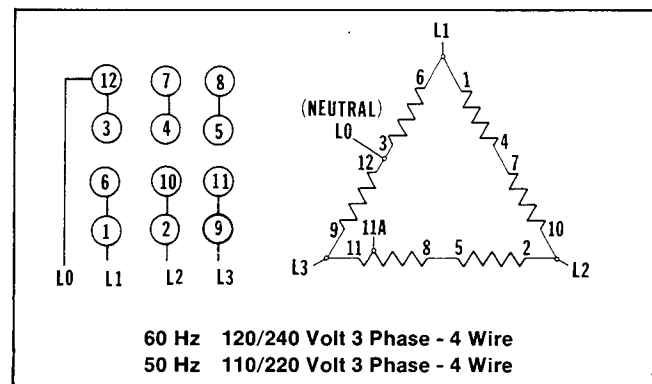

Figure 5
**CHANGE:** Reconnect generator leads according to Figure 5. Install new current transformers as shown in Figure 8. Small leads V0, V1, V2, V3, 8, 11, 8B and 10B should be connected as shown in Figure 8. Disconnect lead from upper scale indicating lamp to hourmeter in controller upper cabinet as shown in Figure 11.
**CHANGE:** Reconnect generator leads as shown in Figure 5. Install current transformers, replace safeguard breaker if required, and reconnect small leads V0, V1, V2, V3, 8, 11, 8B and 10B as shown in Figure 8. Disconnect lead between hourmeter and upper scale indicating lamp as shown in Figure 11.
**CHANGE:** Reconnect generator leads as shown in Figure 5. Install current transformers, replace safeguard breaker if required, and reconnect small leads V0, V1, V2, V3, 8, 11, 8B and 10B as shown in Figure 8. Rewire selector switch and disconnect lead from hourmeter to upper scale indicating lamp in Decision Maker upper cabinet as shown in Figure 11. Replace ammeter if required.